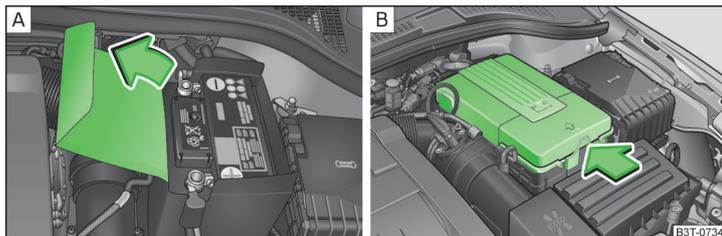

Fig. 169 Polyester cover of the vehicle battery / plastic cover of the vehicle battery
The battery is located in the engine compartment, with some equipment under a polyester cover » Fig. 169 or in the left side compartment of the luggage compartment » page 101.
- Open the battery cover in the direction of the arrow » Fig. 169 - **A** or press the catch on the side of the battery cover in the direction » Fig. 169 - **B**.